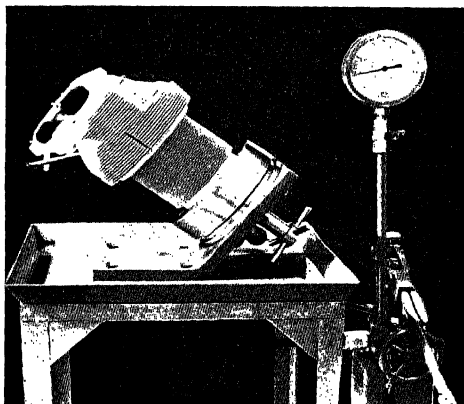

FIG. 7.—Stand for testing cylinder leakage at San Diego. (*Official U.S. Navy Photograph.*)
**Cylinders.**—The Navy also has many other interesting devices for facilitating its work. Figure 7 shows a convenient stand for testing cylinders for leakage. The cylinders are quickly clamped in place and pressure applied by the pump seen at the right. The gage shows when the pressure equals that to which the cylinder is subjected in service.